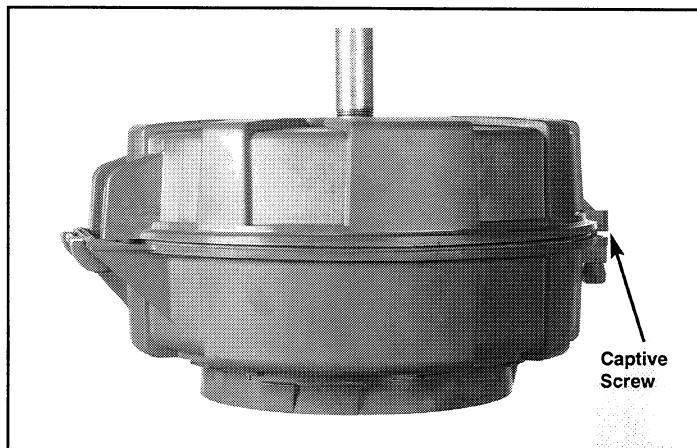

Figure 1
1. Loosen the captive screw holding the cover module to the ballast housing. See Figure 1.